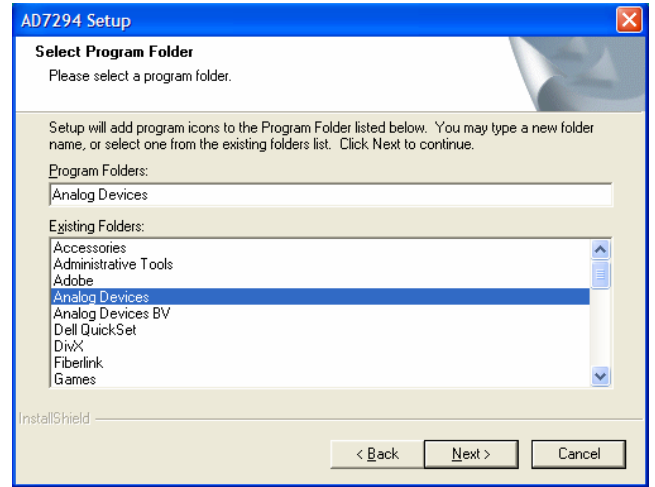
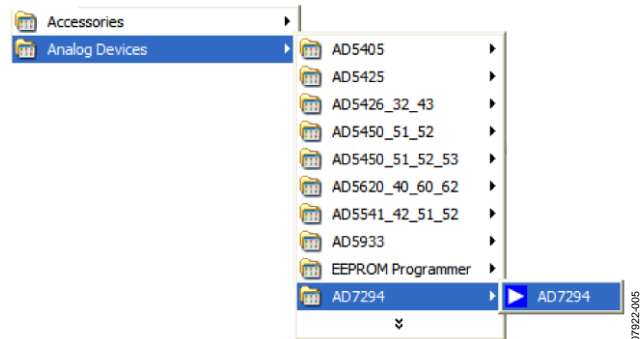

Figure 4. AD7294 Select Program Folder Window
Figure 5. Add the Program Icon
4. Choose **Analog Devices** from the **Select Program Folder** window (see Figure 4). If the Analog Devices folder does not yet exist, create a folder called **Analog Devices** and add the program being installed to the new folder (see Figure 5).